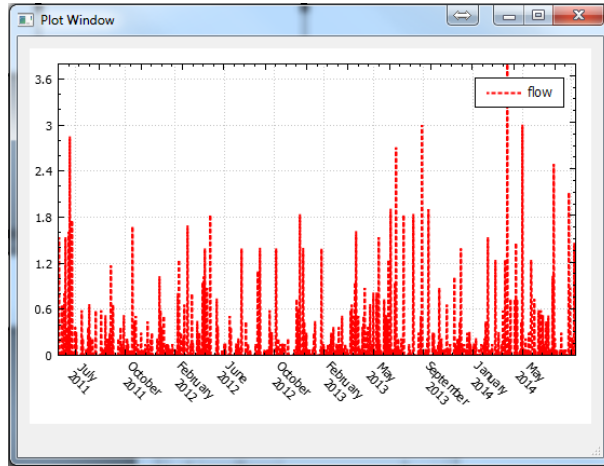

Figure 1: Precipitation time series for the build-up example
5. **Precipitation:** We will use a previously prepared precipitation input file (precipitation.txt) saved in the example folder. Make sure to download the precipitation file and save it somewhere on your hard-drive. - From **Project Explorer**→**Settings**→**Climate Setting** select "precipitation.txt" as the **Precipitation time-series** value. - Right-click on the box where the name of the precipitation input file is written and click on **flow** from the drop-down menu. A graph similar to what is shown in Fig 1 will pop-up.